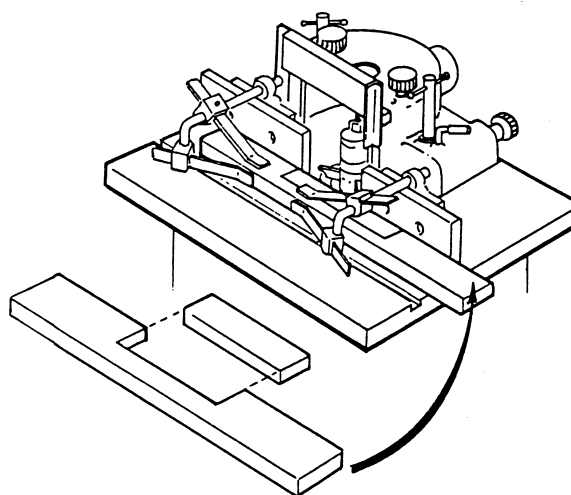

Figure 30
When edge shaping, never attempt to hand guide any stock less than 12 inches long, or narrower than 3 inches without the use of a special guide as shown in Figure 30.
1. Use the hold-ins and hold-downs as shown in Figure 30 to firmly hold the workpiece down and against the fence. If workpiece is too wide for the hold-ins to be used, clamp a scrap board to the table to substitute for the hold-ins.